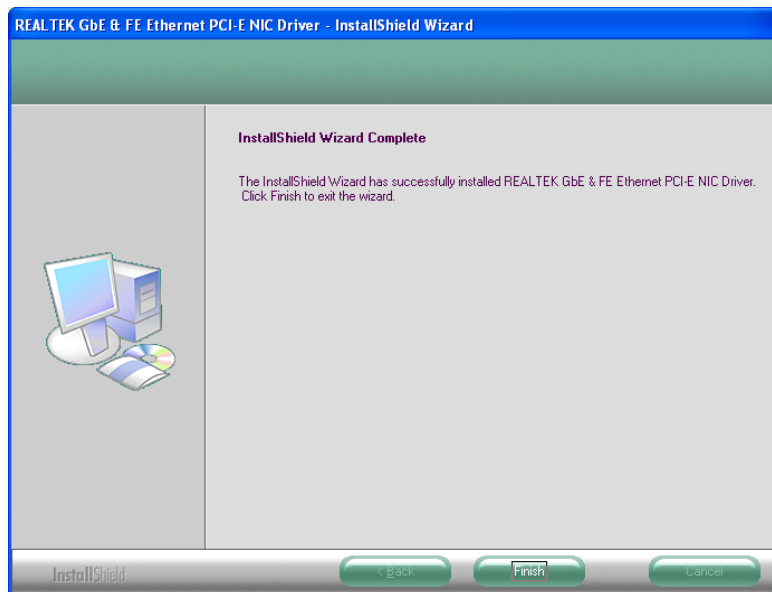

Figure 5-17: LAN Driver Installation Complete
Step 11: When the driver installation is complete, the screen in **Figure 5-17** appears.